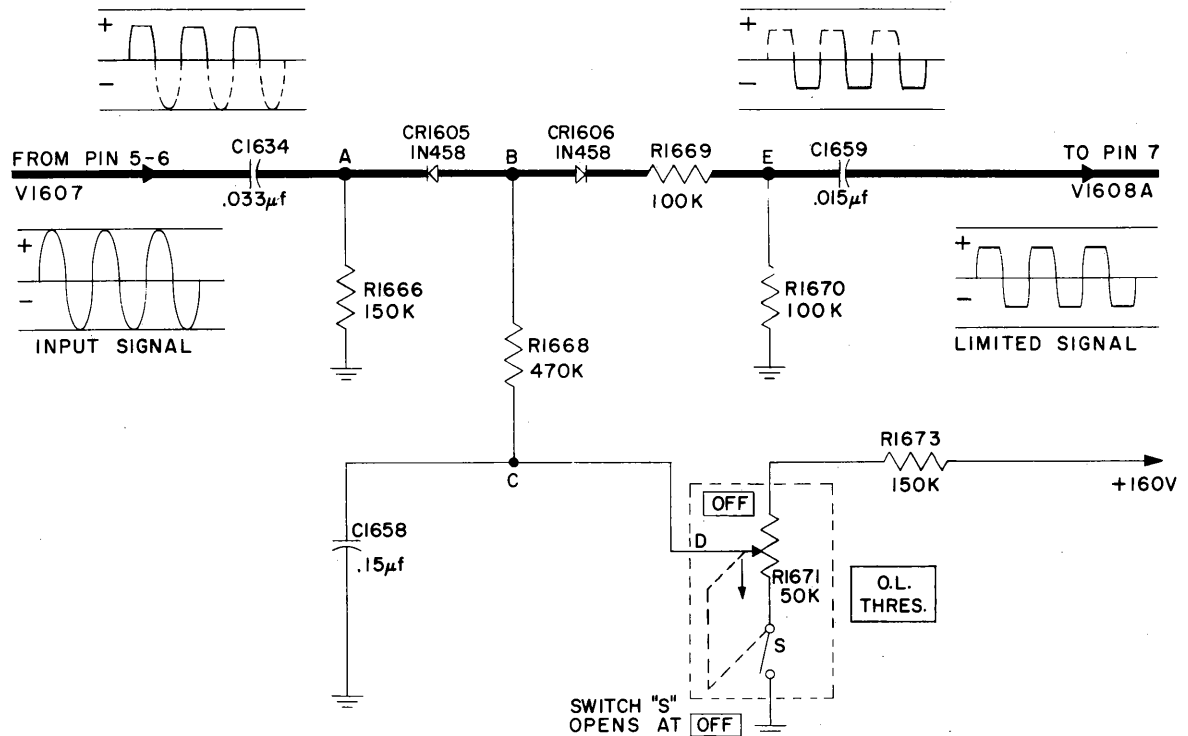

Figure 4-23. Output-Limiter Circuit CR1605 and CR1606, Simplified Schematic Diagram
*f. OUTPUT-LIMITER CIRCUIT. (See figure 4-23.)*
—The output-limiter circuit associated with the AM detector-amplifier is designed to limit the amplitude of the voltages to predetermined levels by clipping symmetrically both halves of the AF signal. The dc voltage level at which clipping occurs is governed by potentiometer R1671, a variable control to which is attached an on/off switch (S in figure 4-23). Both potentiometer and switch are operated by the O.L. THRES. control on the upper demodulator panel.